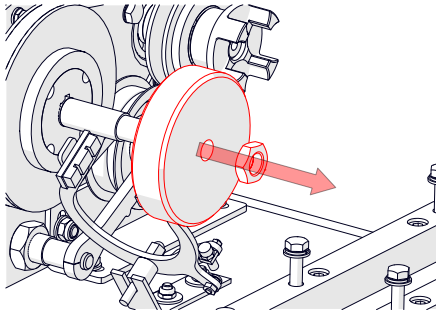

Fig.15E - Remove brake disc.
6. Remove the brake disc [24 mm spanner] (Fig.15E).